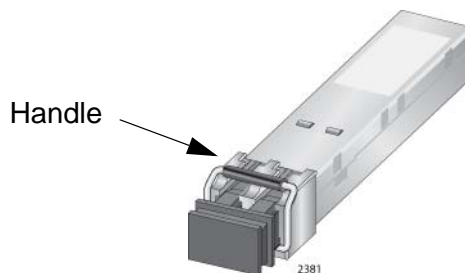

Figure 110. Handle on an SFP+ Transceiver
2. If you are installing the SFP+ transceiver in slot 1 or 3, orient it with the handle on top, as shown in Figure 110. To install it in slot 2 or 4, orient it with the handle on the bottom.